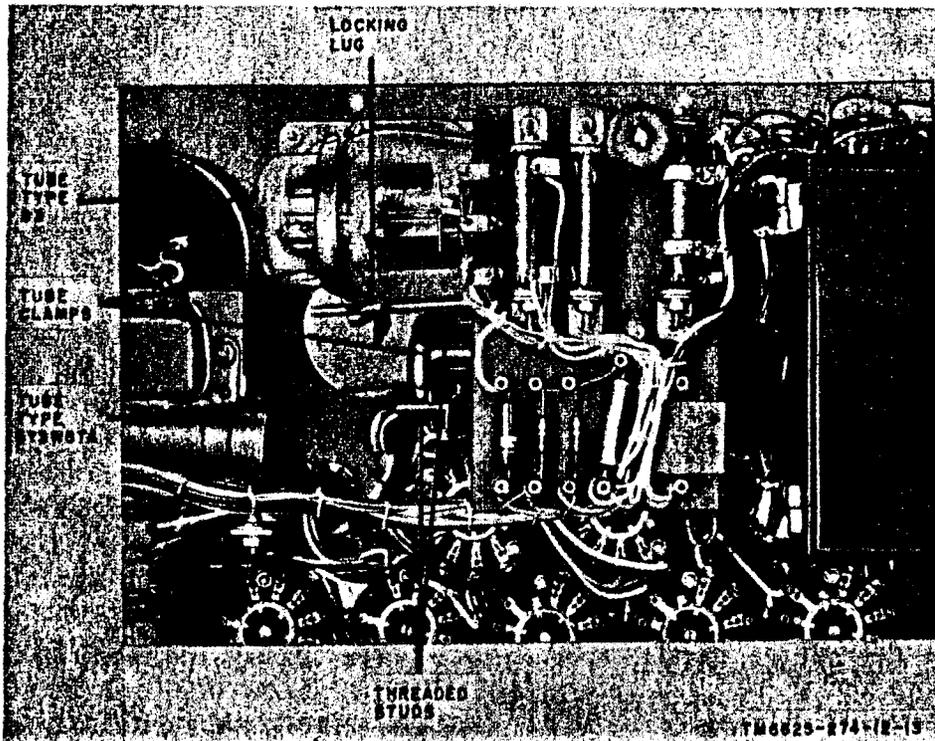

Figure 13. Tube location.
- (1) Remove the chassis from the case (par. 36*a*).
- (2) Remove the tube clamp (fig. 13) from the threaded stud and remove the tube.